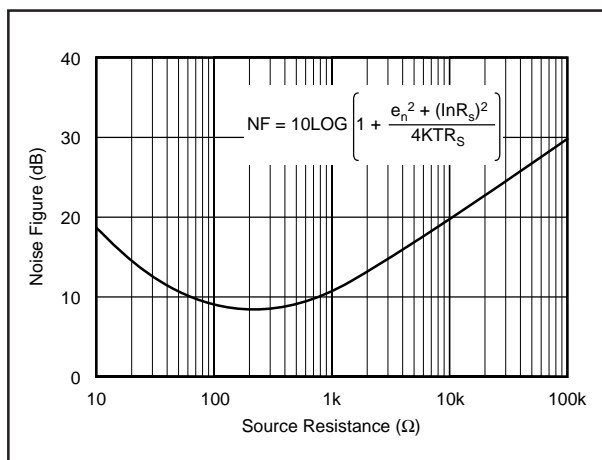

FIGURE 9. Noise Figure vs Source Resistance.
The OPA4658's voltage and current noise spectral densities are specified in the Typical Performance Curves. For RF applications, however, Noise Figure (NF) is often the preferred noise specification since it allows system noise performance to be more easily calculated. The OPA4658's Noise Figure vs Source Resistance is shown in Figure 9.